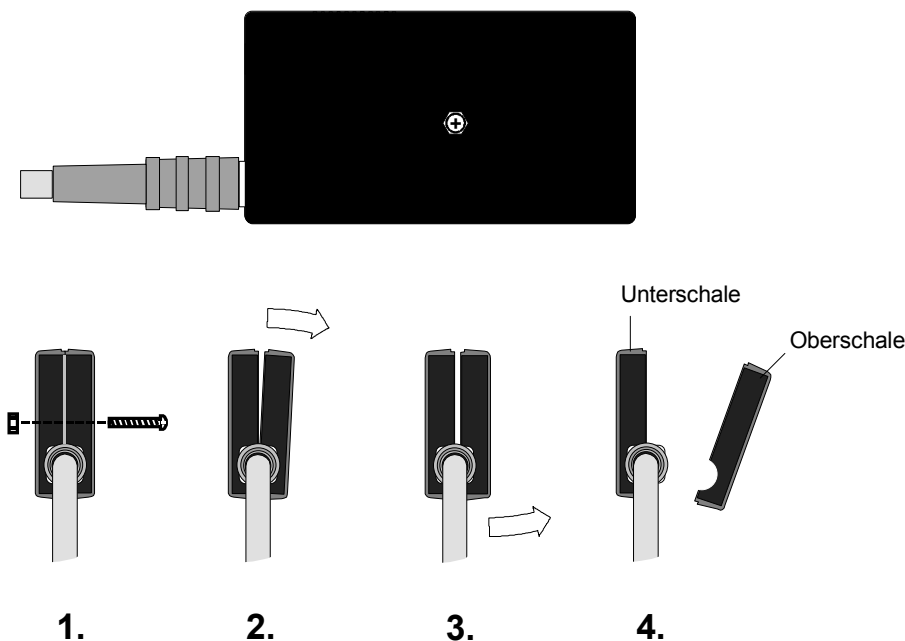

Fig. 6-16 Opening the casing of the sensor data memory
- Open the casing of the sensor's data memory (Fig. 6-16). This involves removing the central holding screw and carefully prying the two casing shells apart by alternately pulling on the outer edges. Never bend the casing shells in the vicinity of the connector, as the centering pin could be ripped off. If possible, remove only the upper shell, leaving the lower shell attached to the connecting cable